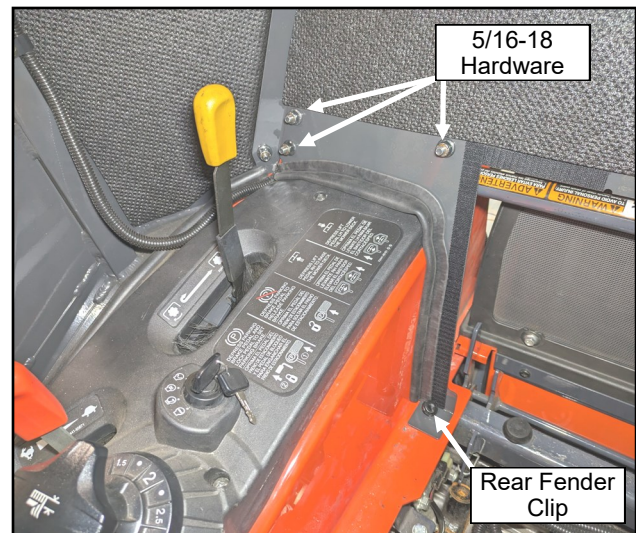

Fig. 10.2 (Install Right Fender Filler)
10.2 See fig. 10.2. Repeat step 10.1 with the right side fender filler.